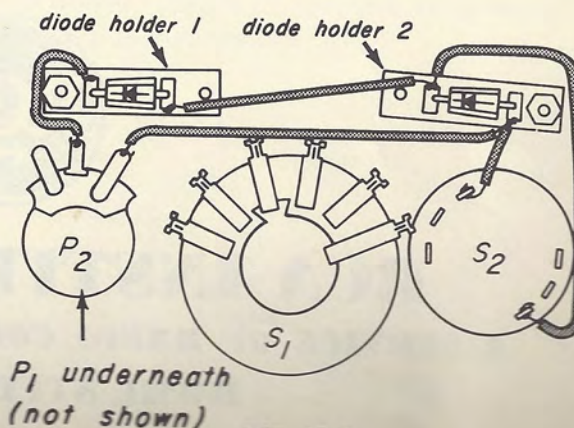

Fig. 12-1
4. Look at Fig. 12-1 and 12-2 to see the assembling and wiring that you are going to do in this lesson.